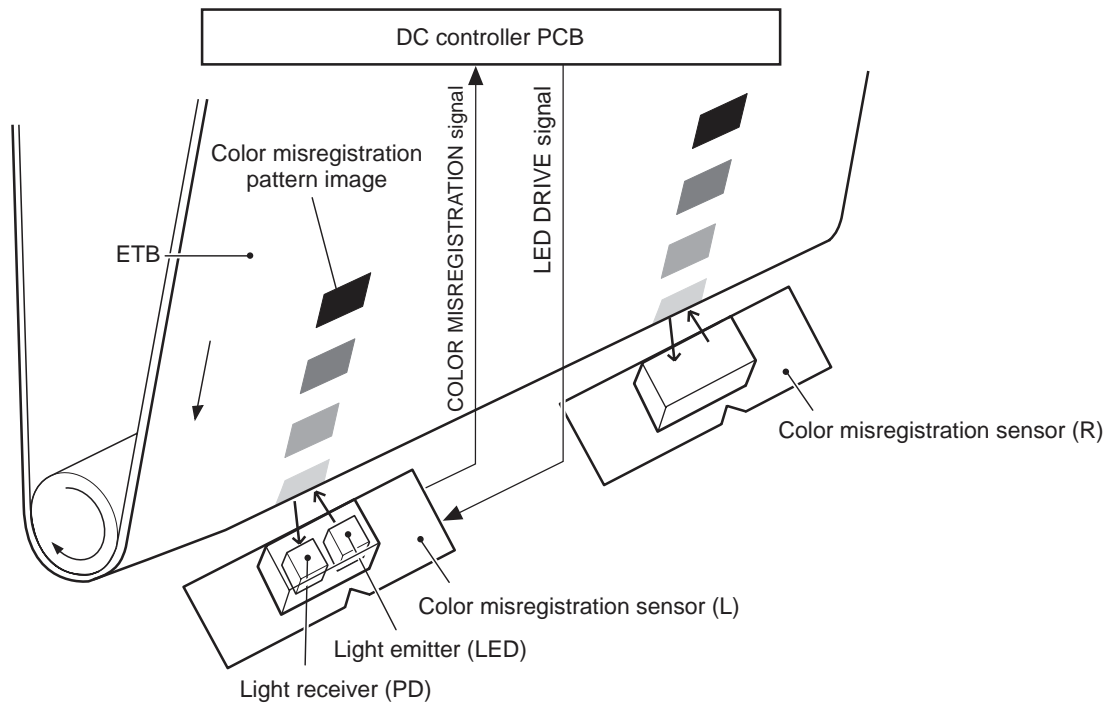

Figure 4-33 Image density detection
Each of the image stabilization controls uses the color registration unit at the top of the ETB to measure image density. The image density detection is performed by the DC controller, which controls the color misregistration unit during the D-half control. The color misregistration unit is placed under the ETB and consists of two detection sensors, each having one light emitter (LED) and one light receiver (PD). Figure 4-33 Image density detection on page 185 illustrates this process.